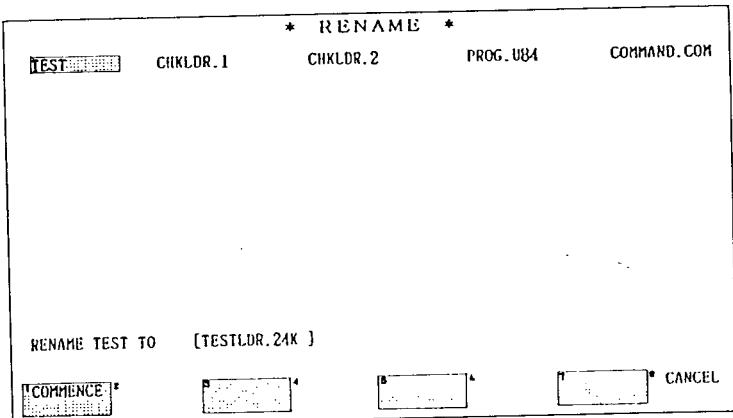

Fig. 7.132
- (1) Depressing CANCEL in Fig. 7.132 calls up the display shown in Fig. 7.130 again.
- (2) Instead of a system disk, a disk formatted by P 150 (containing "COMMAND. COM" file) may be used.
(3) File Copying